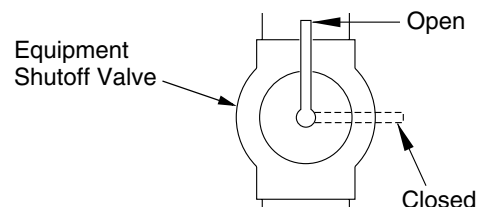

Figure 30 - Equipment Shutoff Valve
1. Close equipment shutoff valve (see Figure 30).